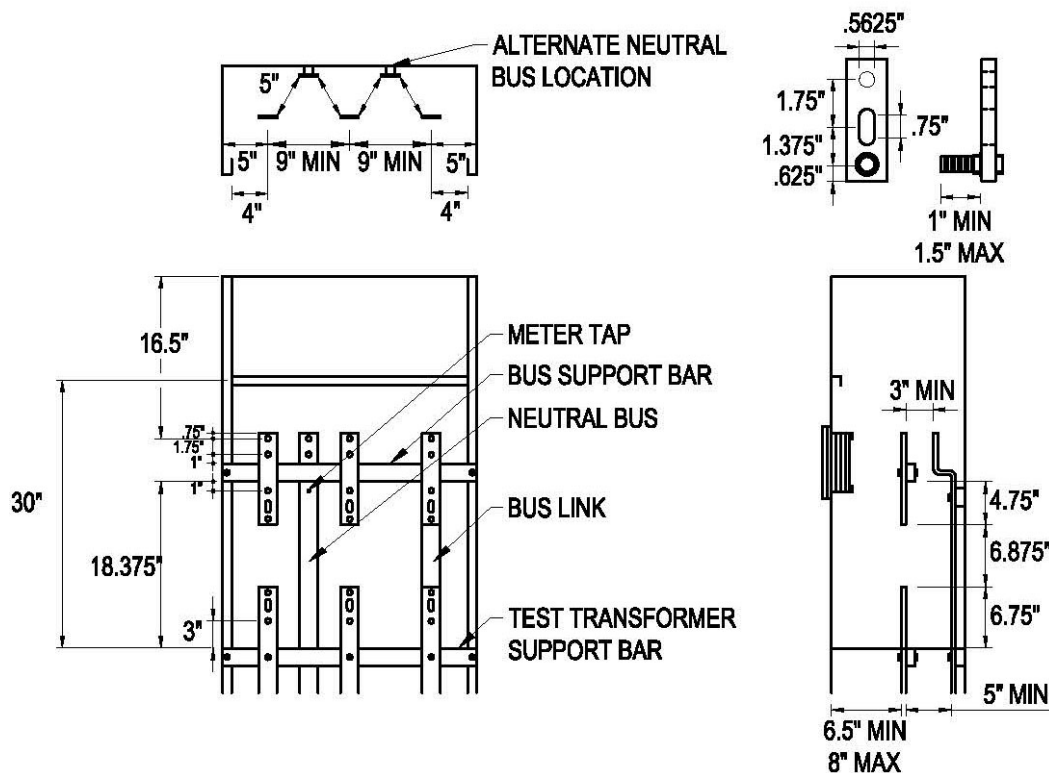

Figure 116. Switchboard Current Transformer Compartment, 0 to 1000 A, 0 to 600 V, Three-Phase, 4-Wire Service (EUSERC 320) (STD-D-6272)
- Bus arrangements and supports must be provided as shown in Figure 116. The neutral bus may be located at either side.